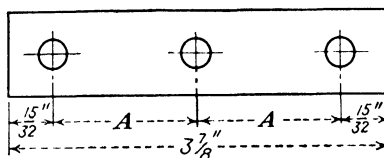

Fig. 23.
10. Find the distance between centers of the equally spaced holes in Fig. 23.